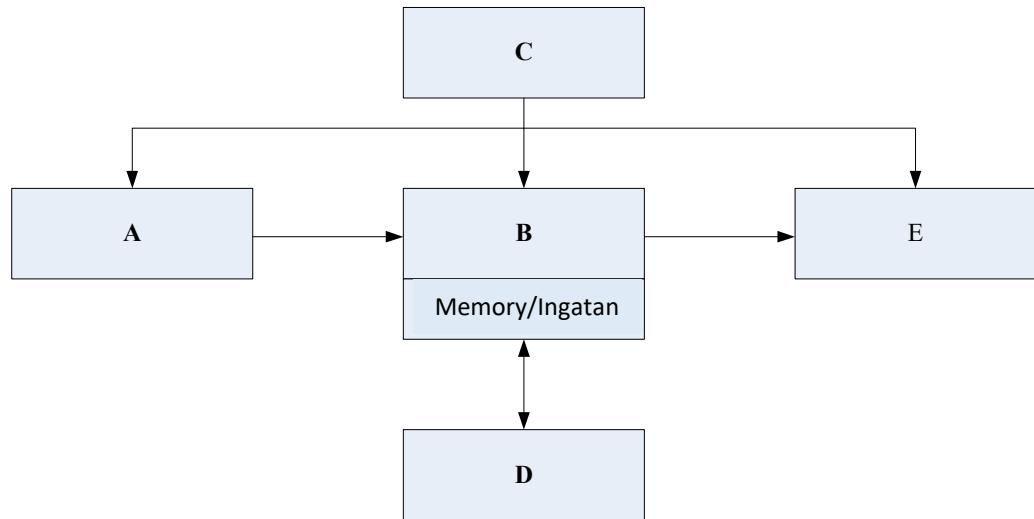

Figure A3(b)/Rajah A3(b)
- CLO1 (b) By referring to Figure A3(b) below, fill in the part mark A, B, C, D, and E to complete the PLC building structure.